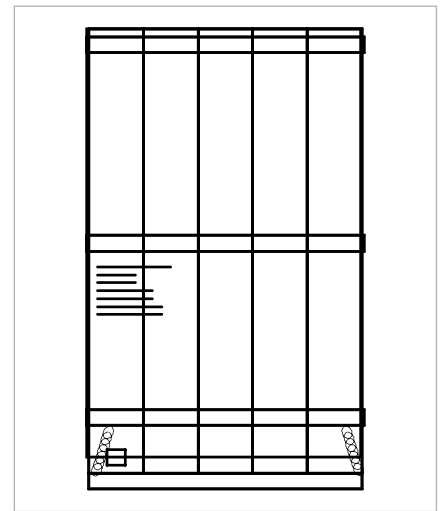

Fig. 9
- delivered in wooden crates with PE protective film (Fig. 9).
- In case of air transport, the panels are packaged in wooden crates with a protective PE film hood (dust protection) or in wooden crates, also with closed wooden bases, however without protective hoods (dust protection, Fig. 9).